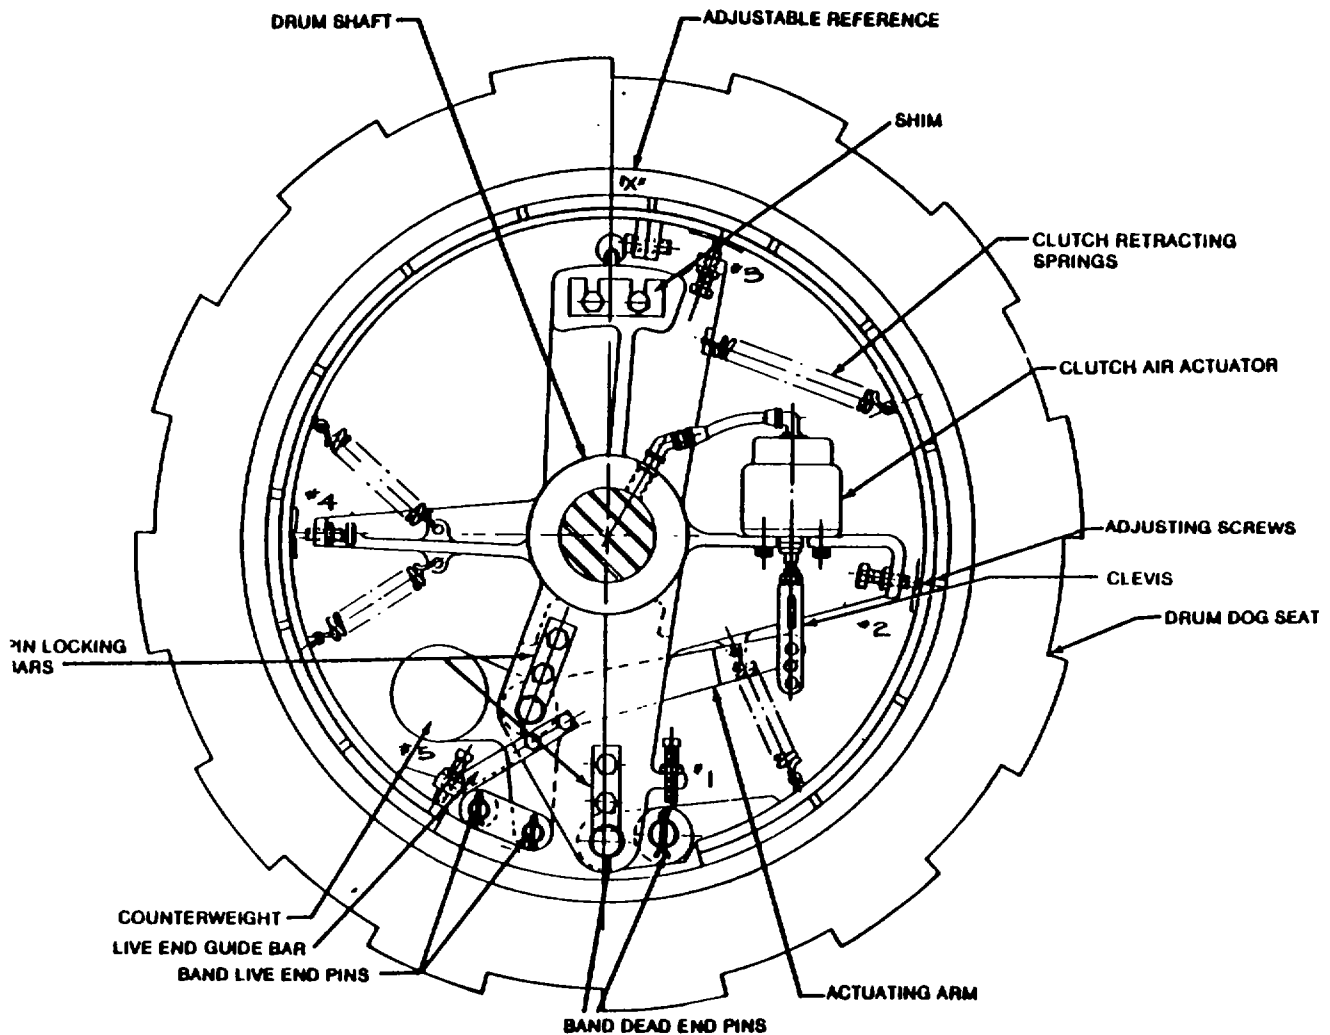

Figure 3-8. Drum Clutch Adjustments.
a. General. As clutch friction blocks wear, adjust five clutch adjusting screws (Fig. 3-8) so that just enough clearance is maintained to clear blocks from drum.
- (1) Apply air pressure of at least 90 psi to air chamber.
- (2) Rotate clutch drum so that adjusting screw #1 in Fig. 3-8 is at position "x" and adjust to .020 in.
(3) Rotate clutch so that adjusting screw #2 is at position "x" and adjust to .030 in. Continue by rotating drum to position set screws with set screw #3 adjusted to .040 in. , set screw #4 adjusted to .050 in. , and set screw #5 adjusted to .060 in. clearance.
(4) Release air pressure on air chamber. Use adjustment nut to set chamber clevis. Adjust distance from bottom surface of air chamber to sight pin in clevis to 4.25 in., as shown in Fig. 3-8.